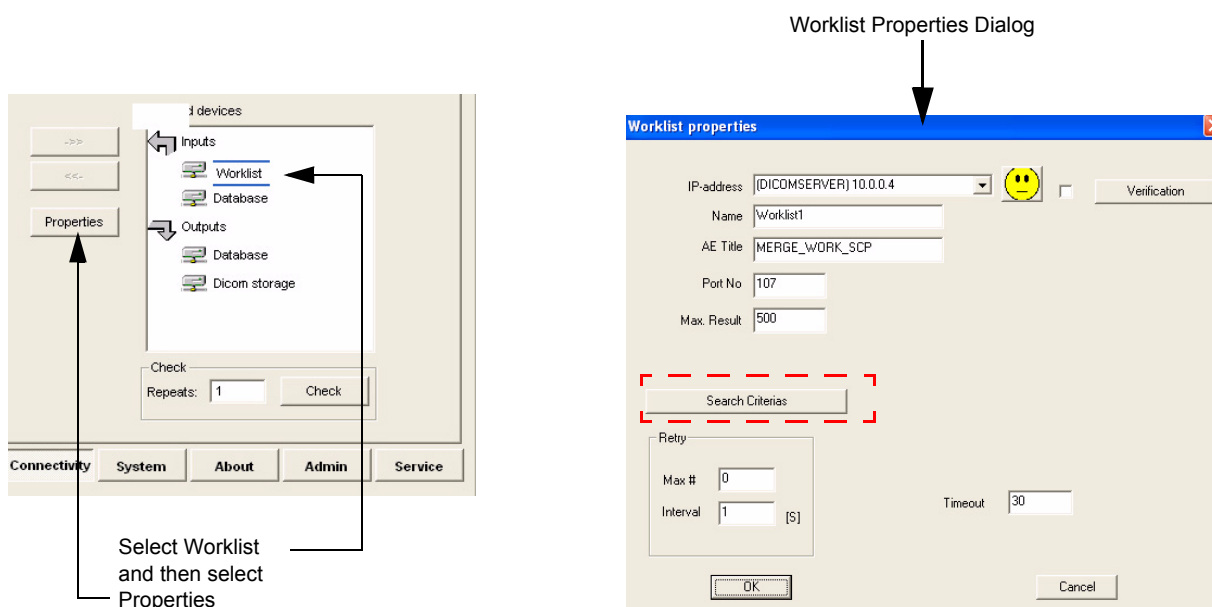

Figure 3-124 Select Worklist Properties Dialog Box
- 7.) Click on "Search Criterias" (Figure 3-124).
The Search Criterias window opens (Figure 3-124).
8.) Highlight the modality filter in the list and click on "Remove" (see Figure 3-124).